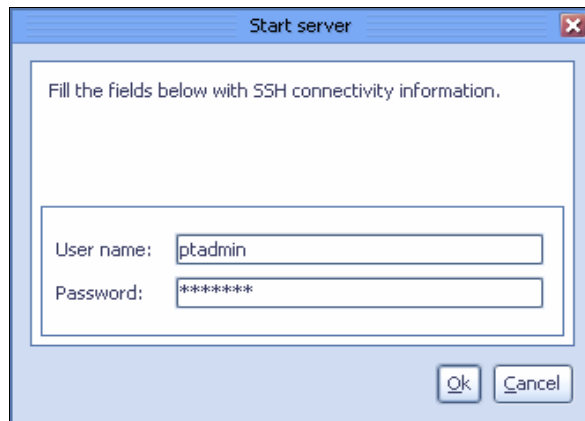

Figure 10-90 Start server window
3. Click **Start server**. A window with login information opens (Figure 10-90). This action happens even you are logged in already. Enter the user name and password.